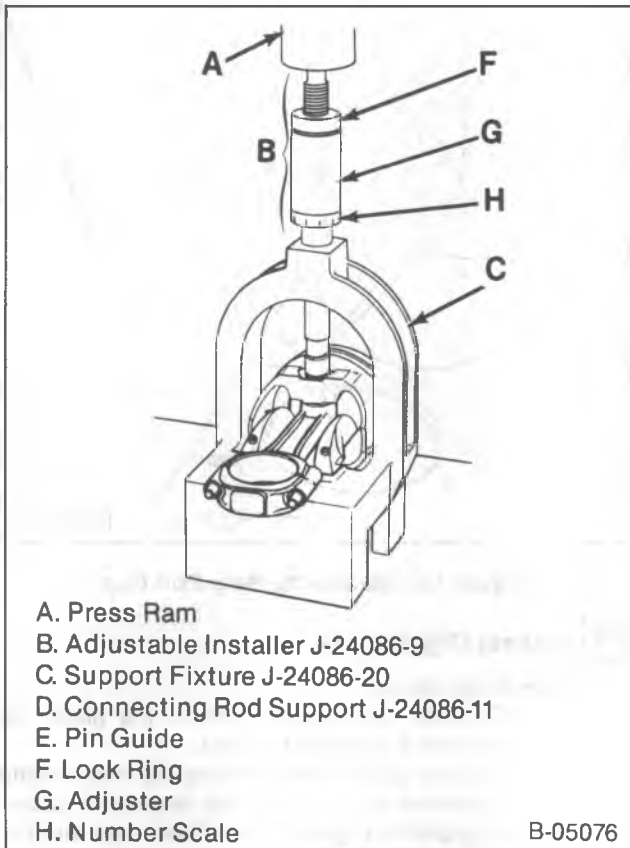

Figure 13—Installing the Piston Pin
Assemble (Figure 13)
- Install the pin guide (item E, figure 13) to hold the piston and connecting rod together. Be sure to use the proper pin guide. Refer to the instructions supplied with the tool.
- Place the assembly on the support fixture (figure 13).
- Adjust the piston pin installer (J 24086-9) to the correct length, using the letter-number scale on the installer adjuster (figure 13). This is necessary to insure that the piston pin is pressed into the piston to the correct depth. Refer to the instructions supplied with the tool for the proper setting.